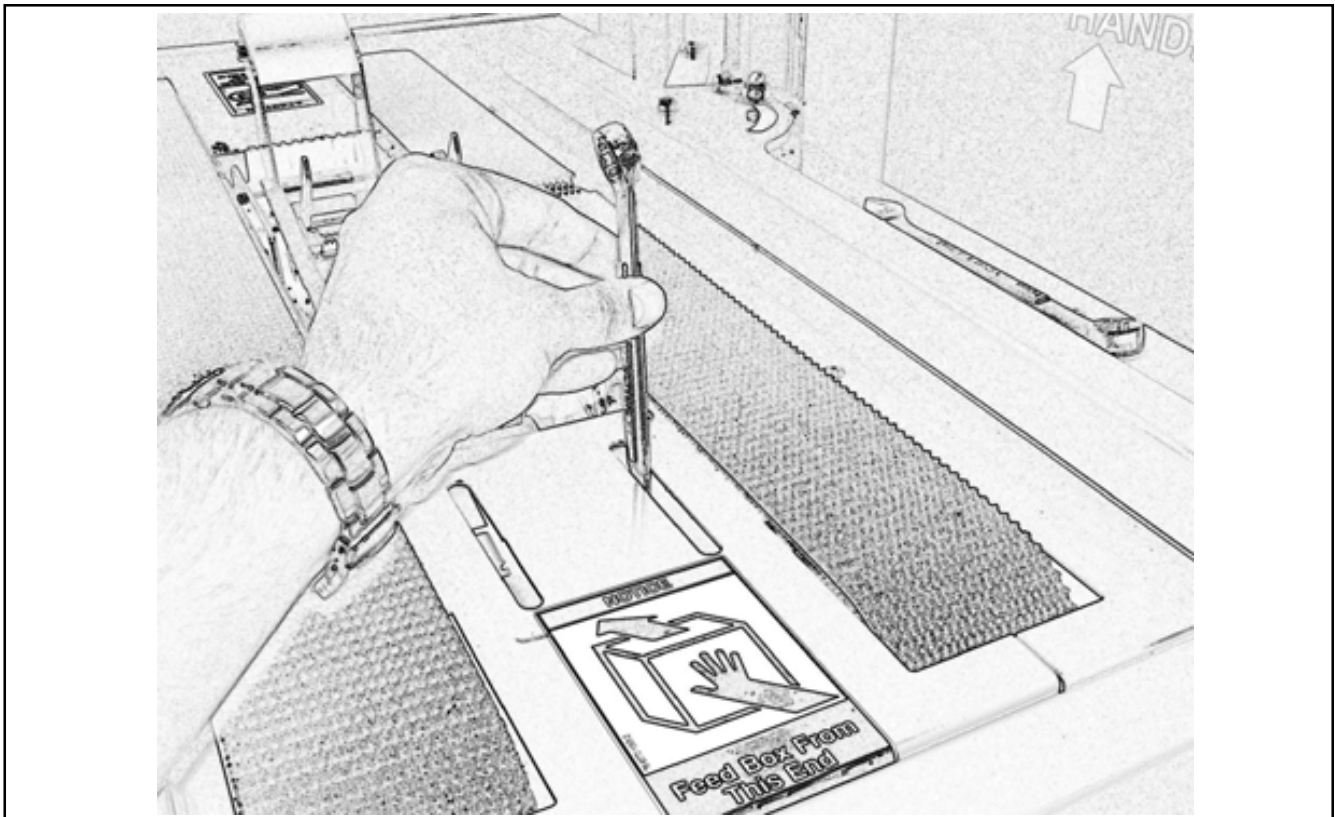

Figure 4-2—Lower Drive Belt Replacement
1. Using a 17 mm open end wrench, loosen, but do not remove the lock nut as shown in Figure 4-2.